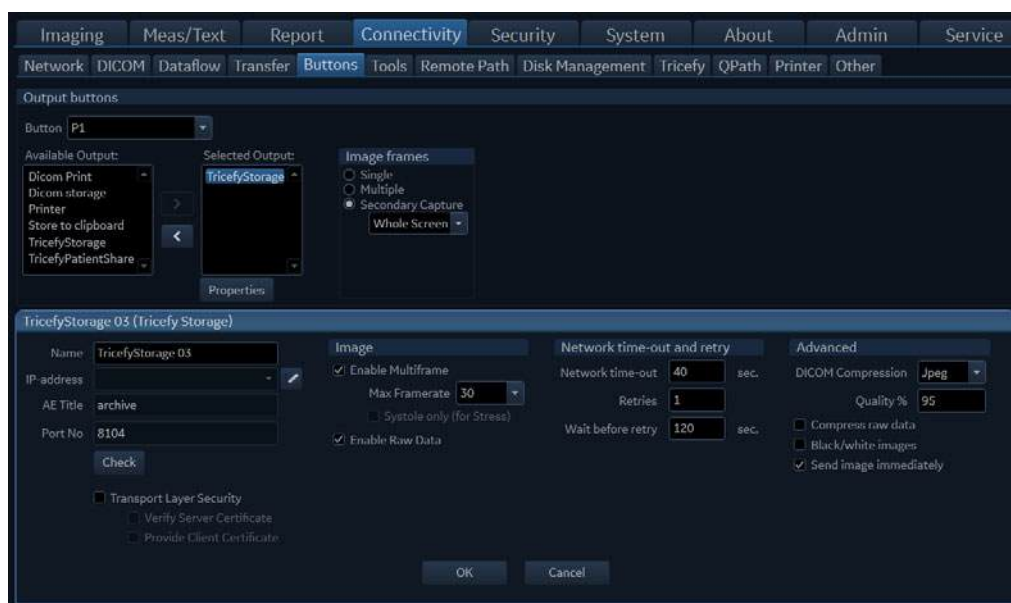

Figure 10-50. Buttons Sheet
3. Select the Connectivity category and the Buttons subgroup. The *Buttons sheet* is displayed (See Figure 10-50)